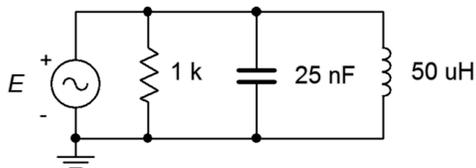

Figure 8.9
23. For the circuit shown in Figure 8.9, determine the resonant frequency, system  $Q$  and bandwidth. If the source is 5 volts, determine the resistor, inductor and capacitor currents at resonance. Assume the inductor's  $Q$  is 40.